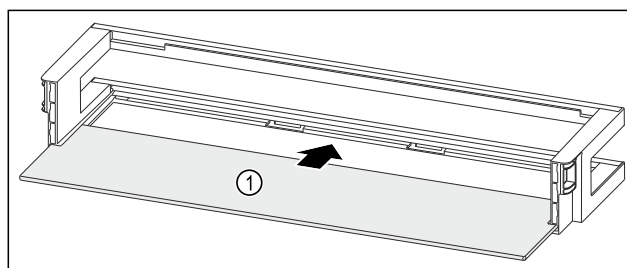

Fig. 93 Door rack with shelf
- Push the shelf Fig. 93 (1) into the side recesses.